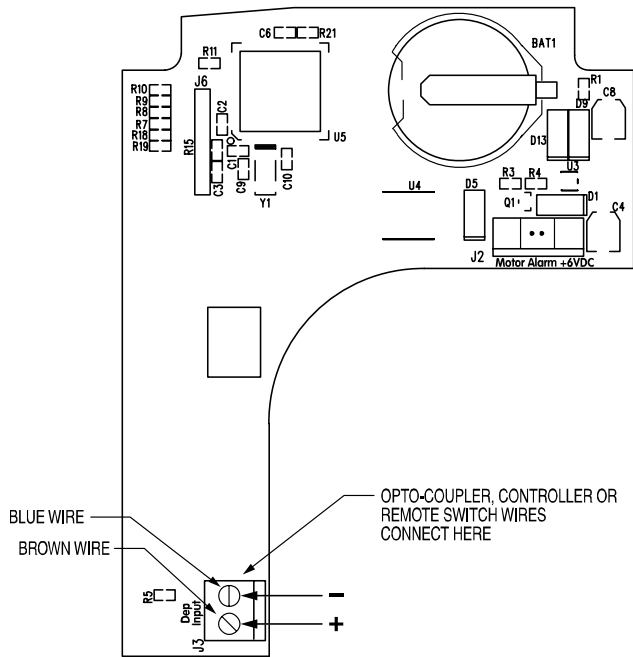

Figure 8c. Connecting Contact Closure Signal or Opto-Coupler
2. Connect the leads of the white wire (blue and brown) as indicated in the drawing. **The orientation is important.** The blue lead connects to the position closest to the coin cell battery (top) and the brown lead goes to the position closest to J3 (bottom). If these leads are reversed, the opto-coupler will not work and can be damaged. See Figure 8c.
The polarity does not matter for this application. Simply connect the lead wires to the terminals on J3 as shown in Figure 8c.